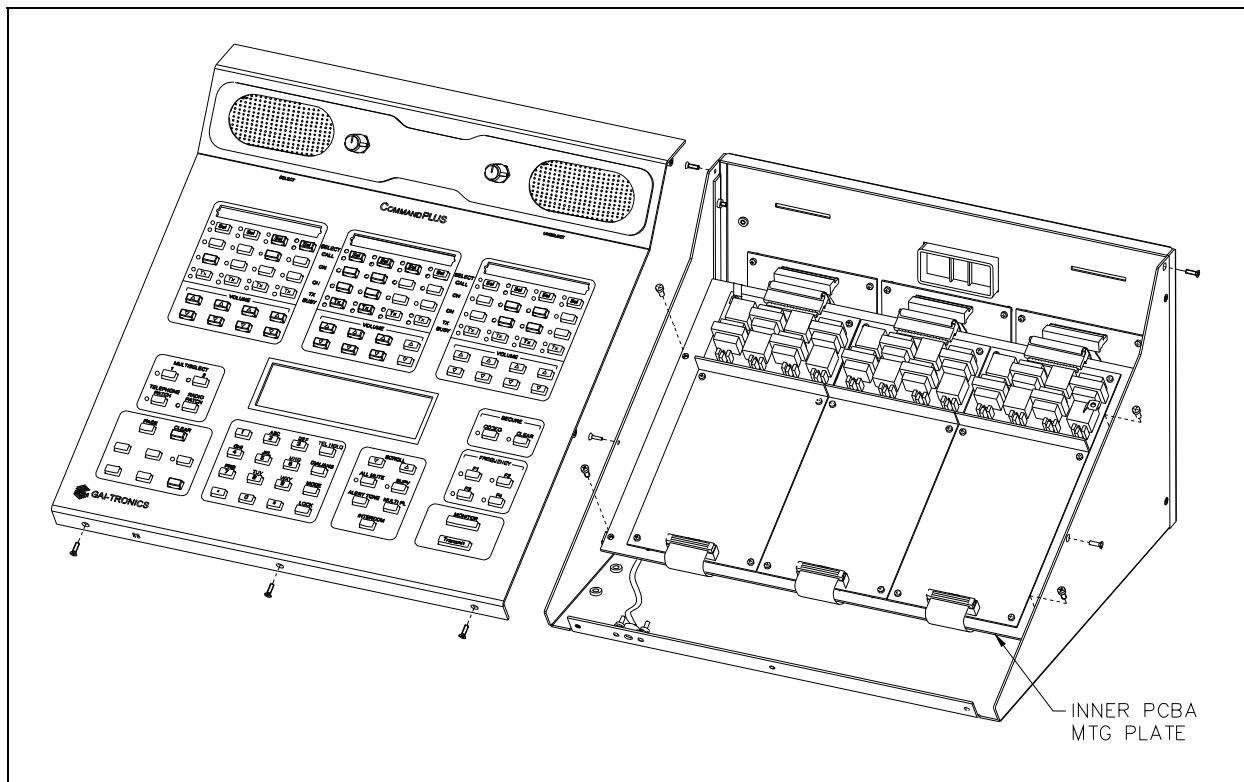

Figure 16.
2. Remove the seven screws securing the top panel and gently lift the cover exposing the attached speaker cable and master display cable. See Figure 16 below.
4. Disconnect all plugs attached to the inner slave board mounting plate. See Figure 16. Then remove the four screws attaching the mounting plate to the base. This allows you to remove the mounting plate.